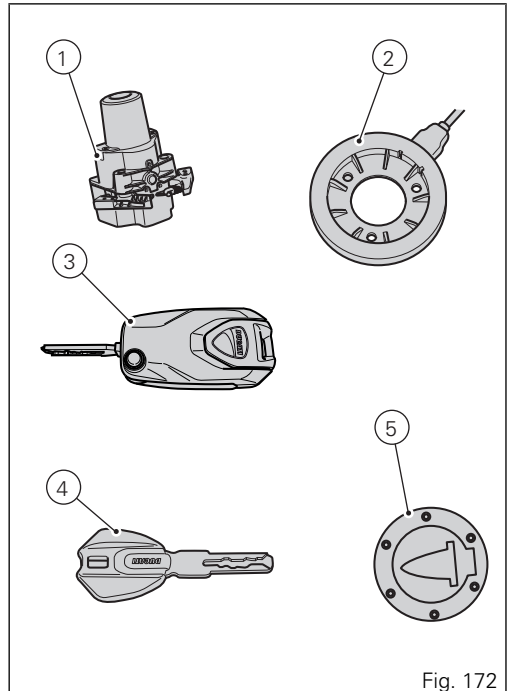

Fig. 172
The "Hands free" unit (1, Fig. 172) is located on tank front side and can be accessed by pulling up and removing lid (8).
Key-On can be performed by pressing button (7) on the Hands free unit (1, Fig. 172) and with the presence of the active key (3, Fig. 177).
Key-Off can be performed by pressing button (7) on the Hands free lock (1, Fig. 172), also without the key (3, Fig. 177).
Key-Off can be performed by pressing button (7) on the Hands free lock (1, Fig. 172), also without the key (4, Fig. 177).
Key-On can be performed by pressing button (7) on the hands free lock (1, Fig. 172) without the presence of the keys (3, Fig. 177) and (4, Fig. 177) and entering the pin code on the instrument panel.